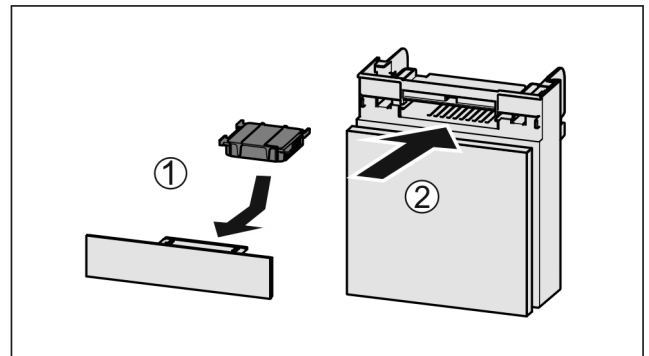

Fig. 167
- Insert the carbon filter as shown in the diagram Fig. 167 (1).
- Push the compartment in Fig. 167 (2).